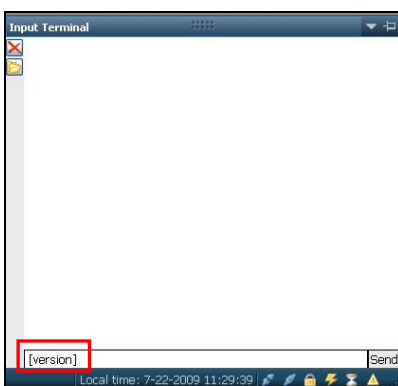

Figure 61: Version Command
3. Type [VERSION] in the field at the bottom of the *Input Terminal* window (see Figure 61).
Browse to NavCom\Firmware on the PC (see Figure 61).